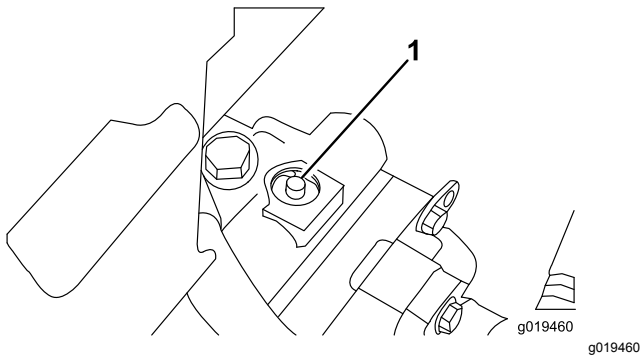

Figure 34
1. The bypass valve is located on top of variable displacement pump (Figure 34). Rotate the valve 90°, in either direction, to open and allow oil to bypass internally.